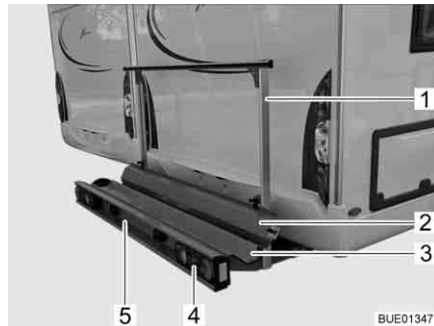
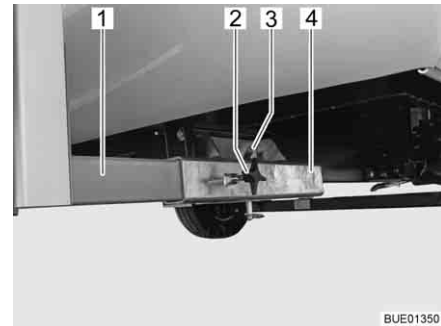

Fig. 6 Load rack
Fig. 7 Attachment to vehicle
The load rack (Fig. 6) permits transport of a motorcycle or a motor scooter weighing up to 130 kg.
- Rack trough (Fig. 6,3) and retaining clip (Fig. 6,1) with attachment to vehicle (Fig. 7)
- Rear lights (Fig. 6,4)
- Vehicle licence plate light (Fig. 6,5)
- Ramp (Fig. 6,2)
The two side members (Fig. 7,1) of the load rack are fixed to the floor of the vehicle by means of tommy screws (Fig. 7,2) on the square drives (Fig. 7,4). The load rack is secured by a bolt (Fig. 7,3) with locking ring.